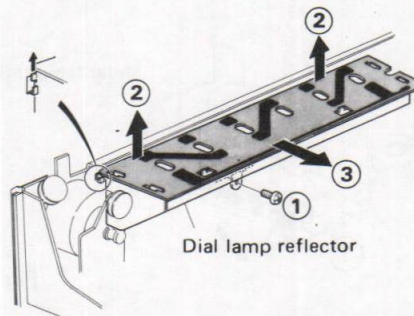

Fig. 12
- 1) Remove mounting screw (1) and pull reflector in arrow directions (2, 3) to remove. (Refer to Fig. 12).